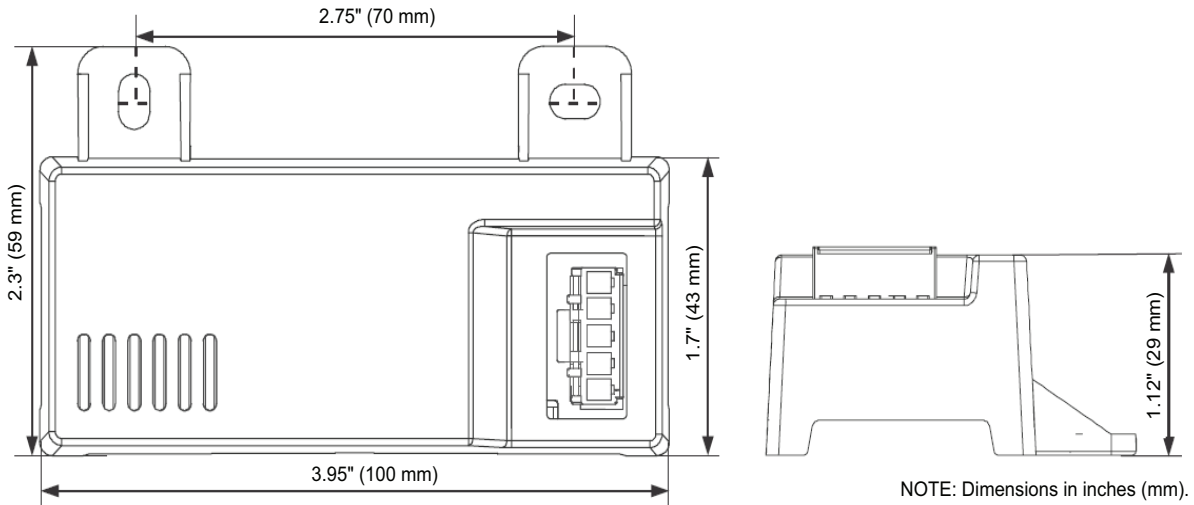
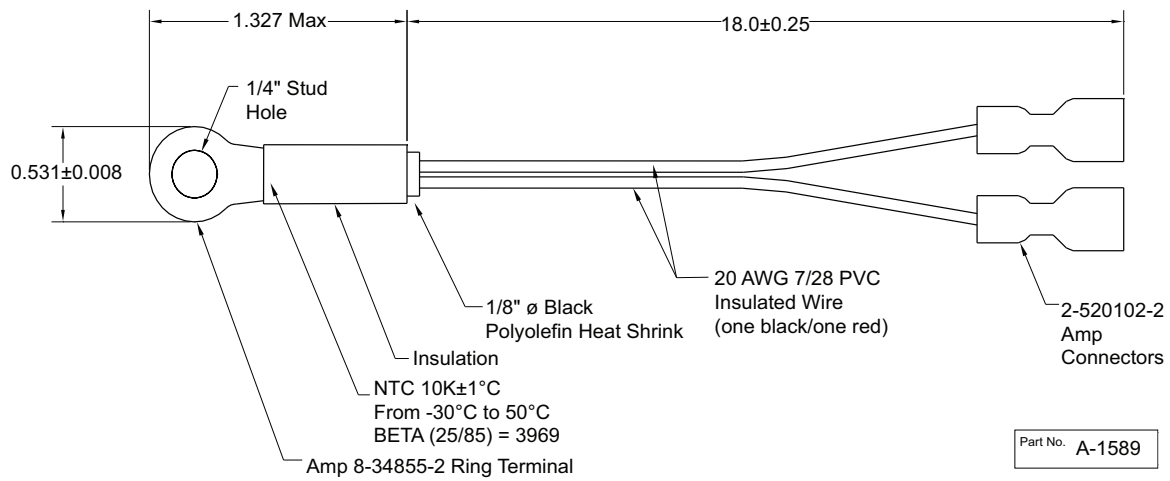
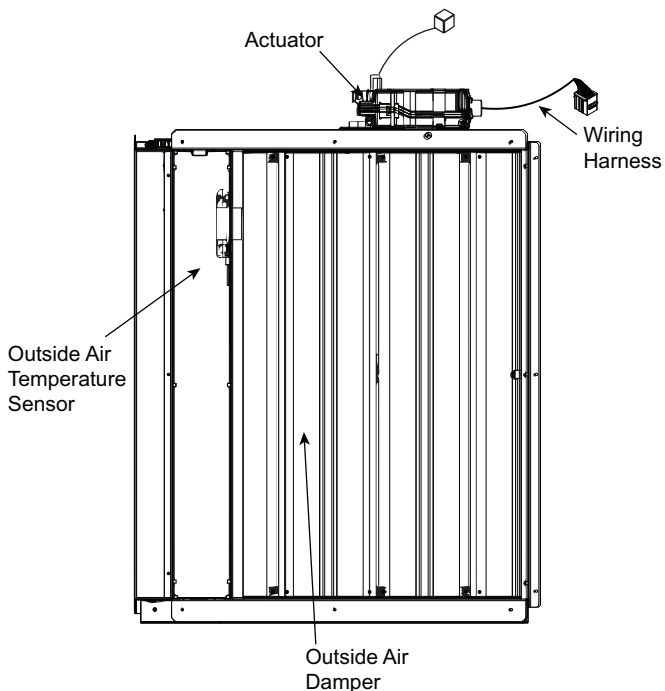

Fig. 64 — 1196582 Dimensional, Connection and Switching Information
Fig. 65 — 1193547 Dry Bulb and Mixed Air Sensor Wiring
Fig. 66 — EconomizerONE Component Locations (CRECOMZR108A00 Shown)
When using the 1196582 enthalpy sensor (see Fig. 64) for outside air changeover, the existing 1193547 dry bulb sensor (see Fig. 65) must be removed. The enthalpy sensor will be mounted in the same location as the dry bulb sensor (see Fig. 66). When the enthalpy sensor's OA (Outside Air) temperature, enthalpy, and dew point are below their respective setpoints, the outside air can be used for free cooling. When any of these are above the setpoint, free cooling will not be available. Enthalpy setpoints are configurable and create an enthalpy boundary according to the user's input. For additional details, see Fig. 67-68 and Table 32.
The optional enthalpy control sensor (P/N: 1196582) communicates with the POL224 economizer controller using the 5-wire harness, 1201876. The 1196582 sensor can be used as a single outside air enthalpy, a differential return enthalpy, or a differential return temperature sensor. Refer to the base unit control wiring diagrams found earlier in this book to wire the 1196582 enthalpy sensor for each option. Use Fig. 64 and Table 34 on page 55 to locate the wiring terminals for each enthalpy control sensor.
Economizers are shipped standard with an 1193547 outside air dry bulb sensor (see Fig. 65). System default setting (high temp limit) is 63°F (17°C) and has a range of 48°F to 80°F (9°C to 27°C). Sensor is factory installed on economizer.
If installing the optional 1196582 enthalpy sensor, the 1193547 dry bulb outside air sensor must first be removed. Wire sensor to harness 1201876 and the (5) wires from the harness to the EconomizerONE harness in the return air chamber. Harness 1201876 has a 5-pin plug that connects directly to the 1196582 enthalpy sensor. Refer to the base unit control wiring diagrams earlier in this book for wiring connections. Refer to Fig. 64 and Table 34.